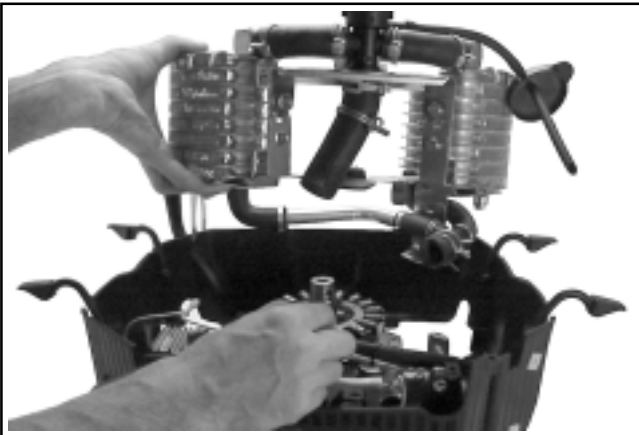

Figure 9-37. Lifting the Cooling System Off.
6. Lift the entire cooling system, with the radiators, hoses, and supporting brackets attached, off the engine. See Figure 9-37. Further disassembly may be performed as required. When disassembly of hose connections is necessary, the use of a rubber lubricant on the inside of hoses will make installation easier.